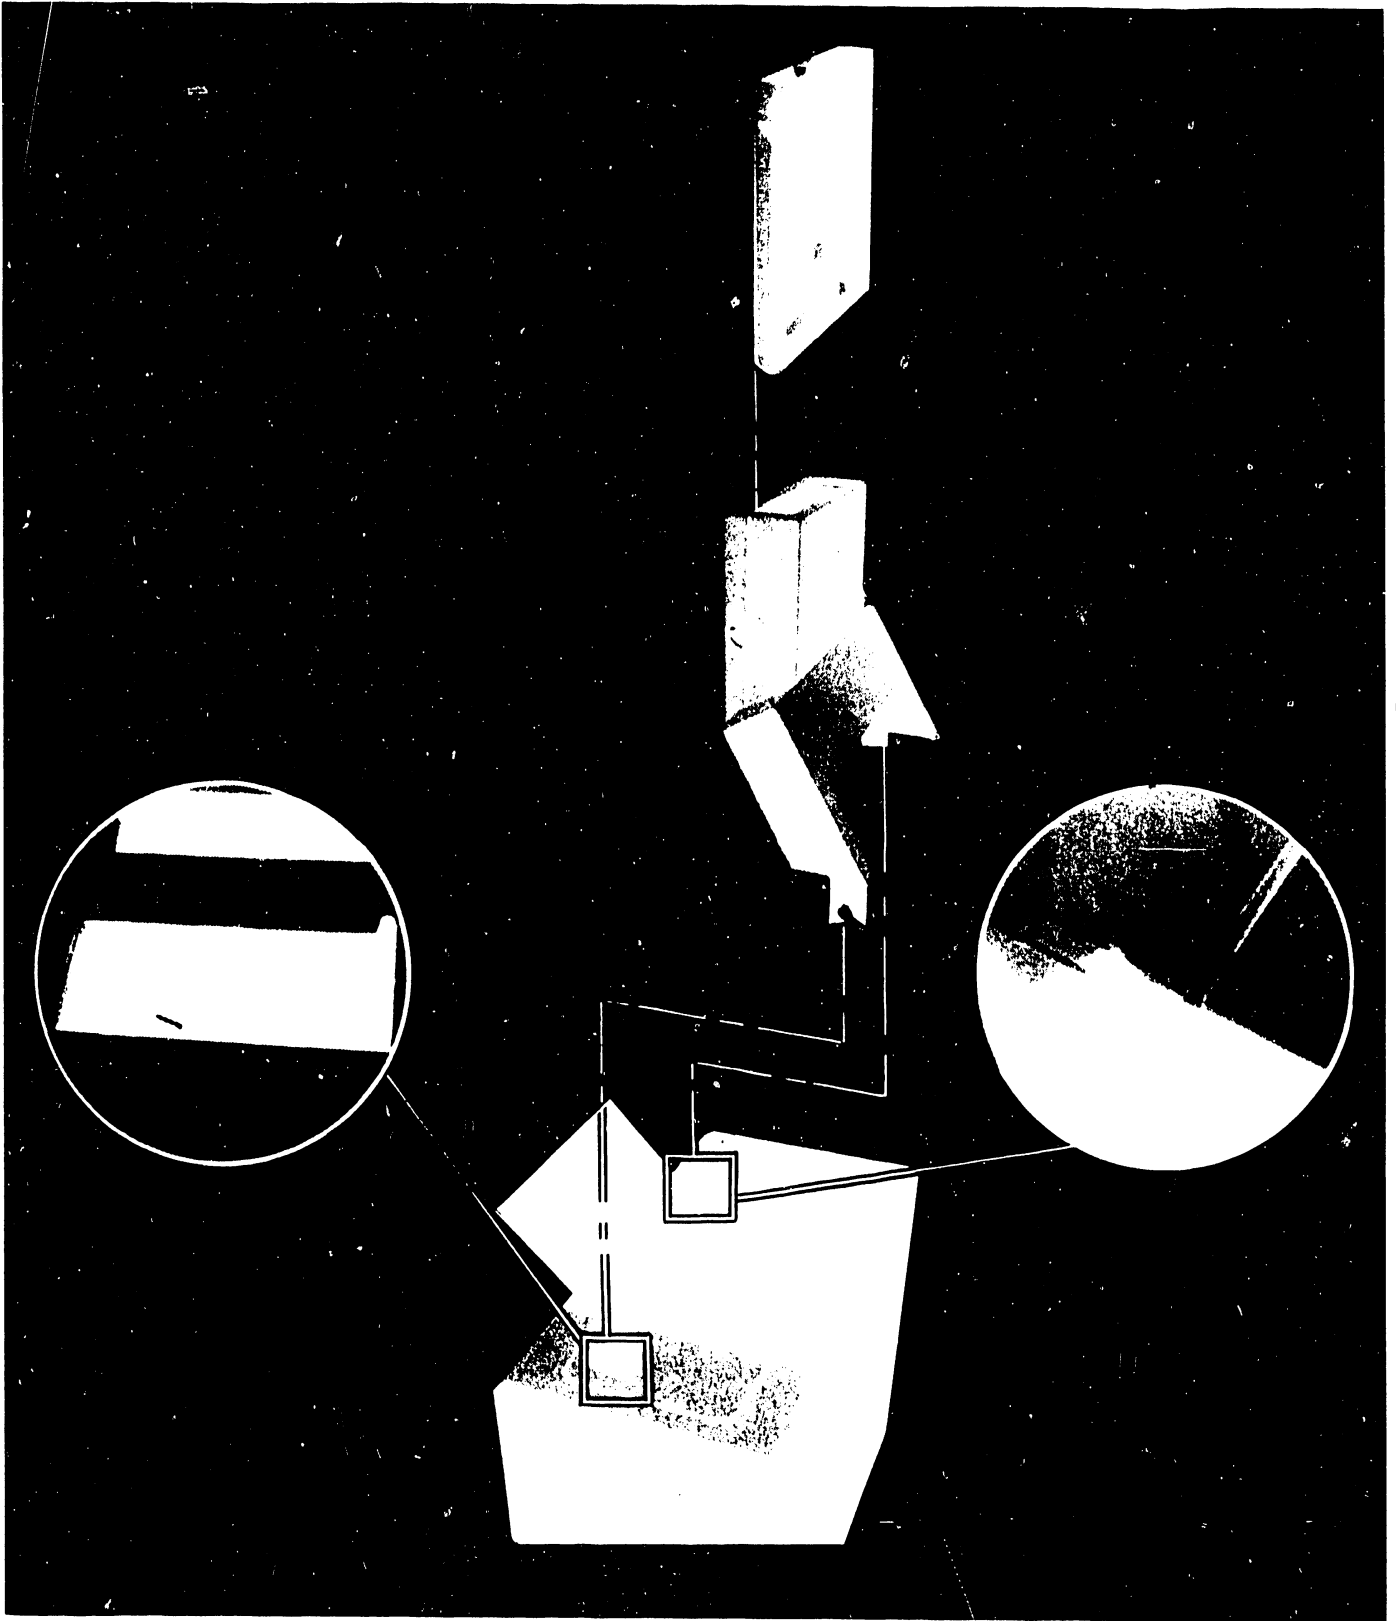

FIGURE 4-8 SINGLE SHEET FEEDER INSTALLATION
4.7.1 INSTALLATION (Figures 4-8 and 4-9)